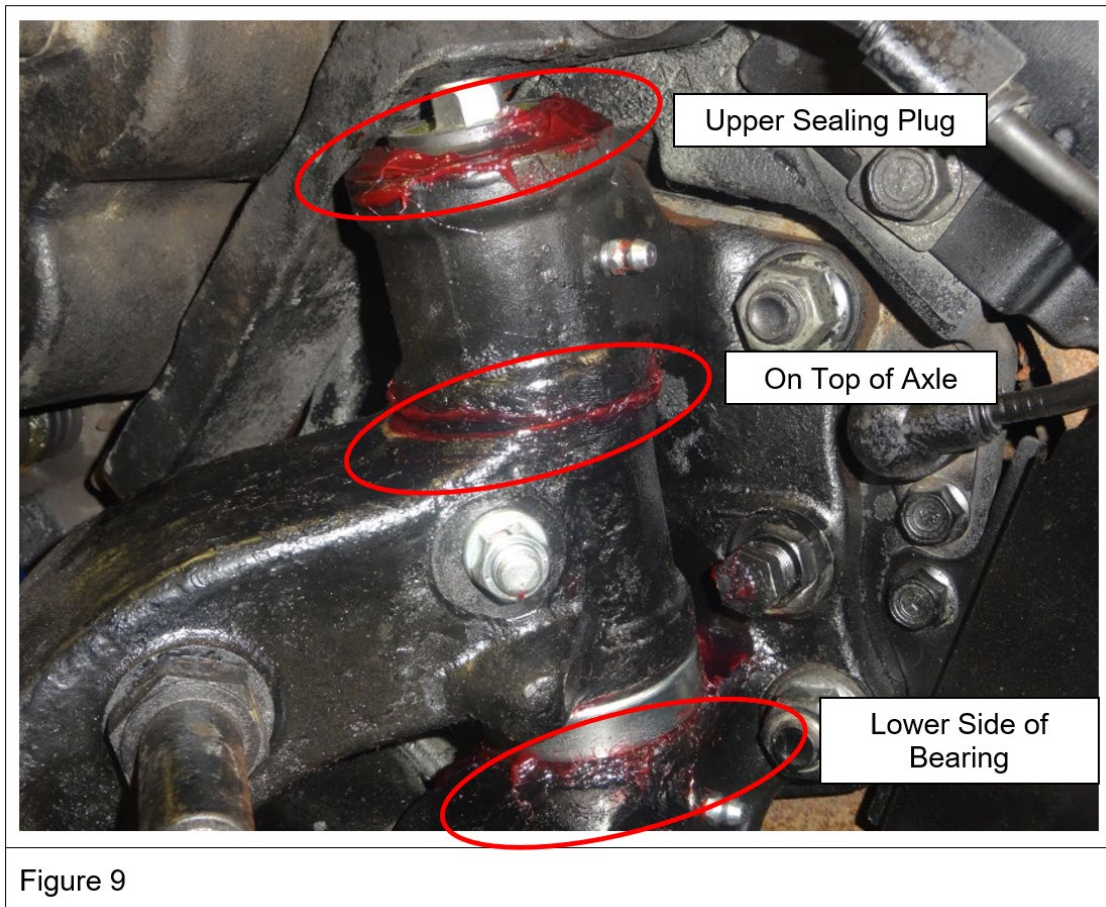

Figure 9
When the installation of the kingpins is completed, use a grease gun to inject grease at each of the four (4) grease fittings. Continue to inject grease until new grease is seen in a complete circle around each kingpin upper sealing plug and at each pivot point (two per side). (See Figure 9.)